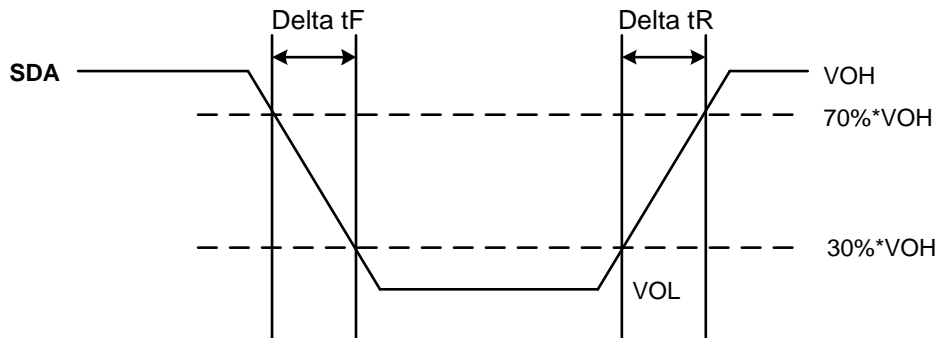

Figure 22. Output Slew Rate Measurement Points
3. See Figure 22. Output Slew Rate Measurement Points